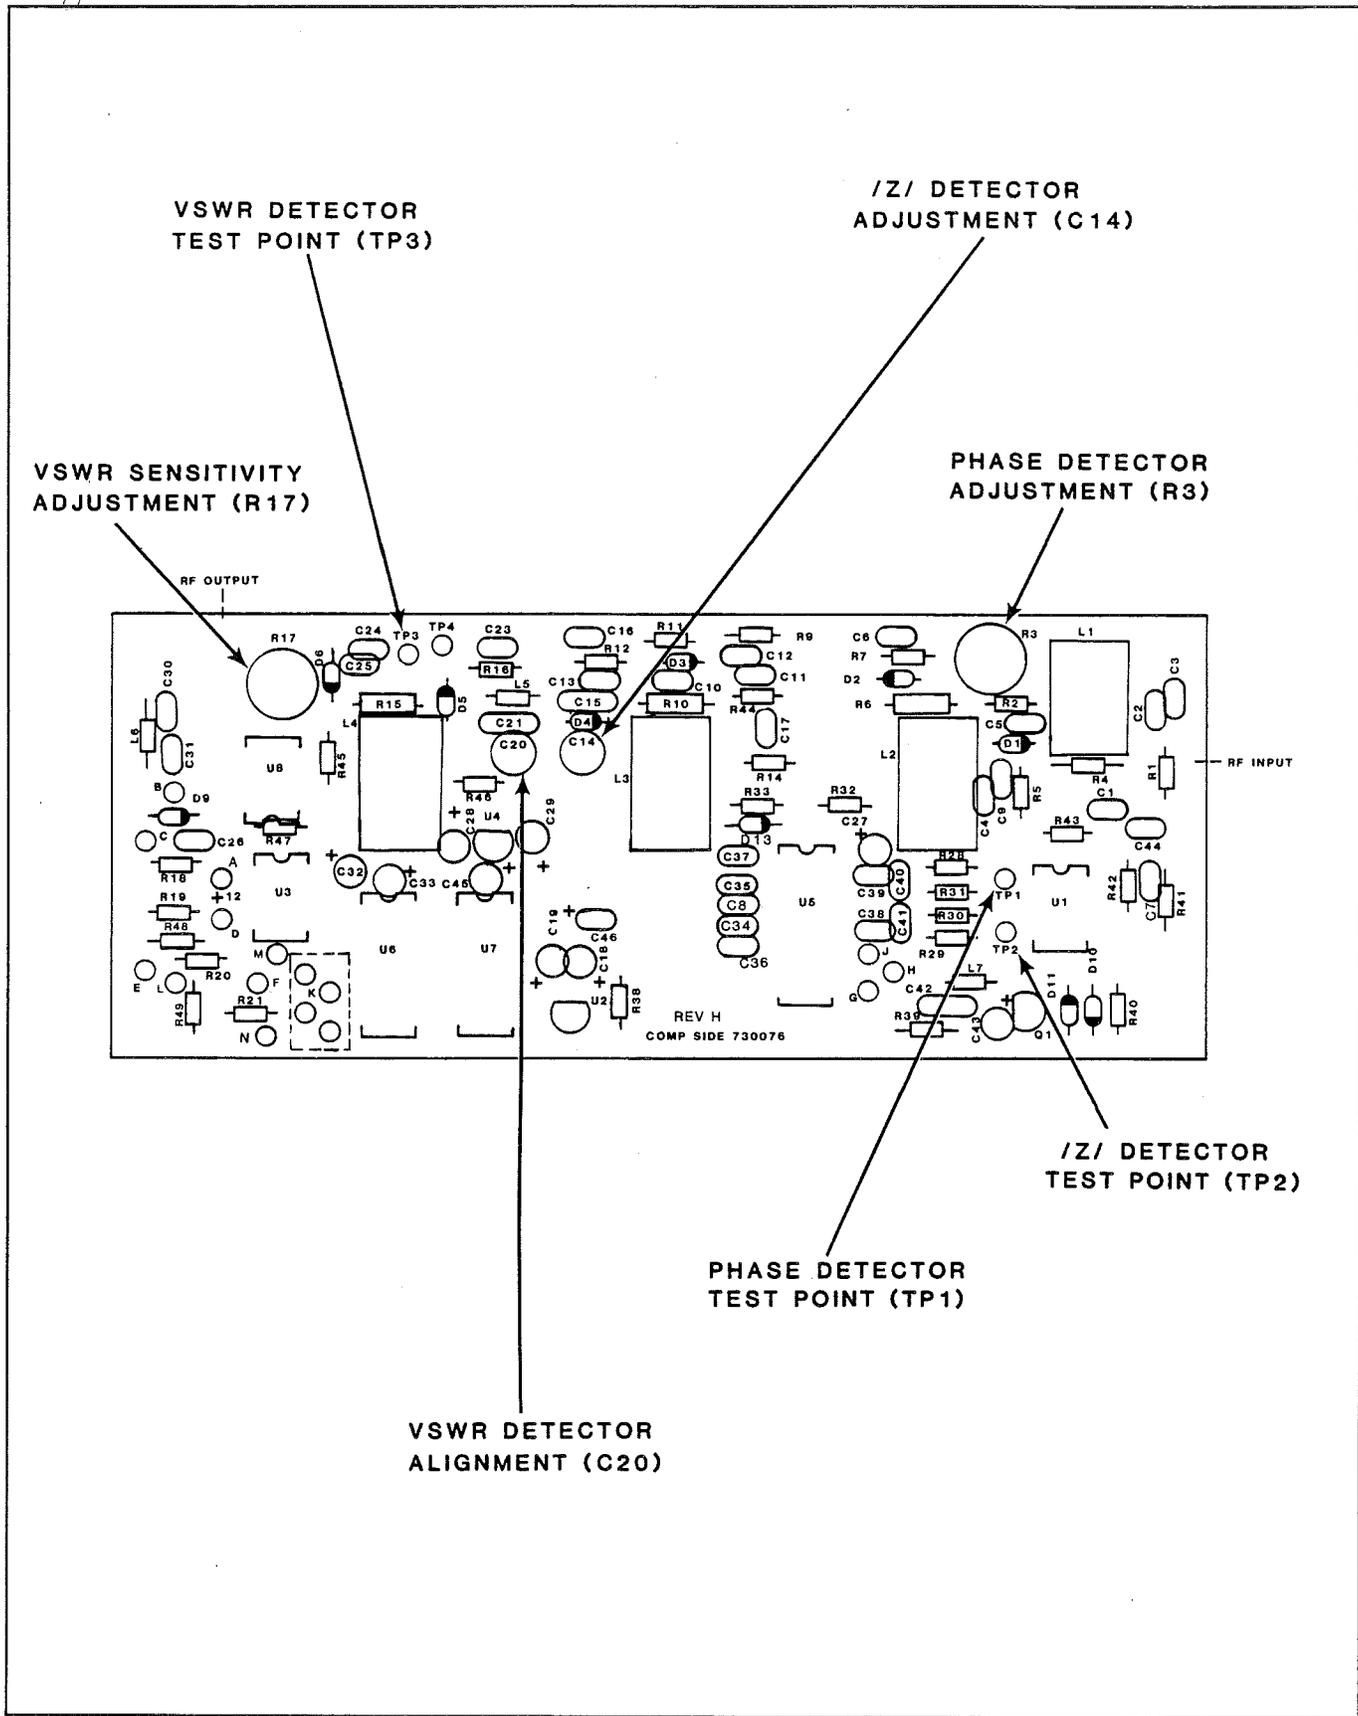

FIGURE 6-1. Test Points.
6. Connect the voltmeter to test point 3 on the Detector PCB (Figure 6-1). Adjust the voltmeter to read -DC volts at the lowest voltage scale.
8. Connect the voltmeter to Test Point 2 on the Detector PCB (Figure 6-1). Adjust the voltmeter to read +DC volts on a range equal to 10V.
10. Connect the voltmeter to Test Point 1 on the Detector PCB (Figure 6-1).